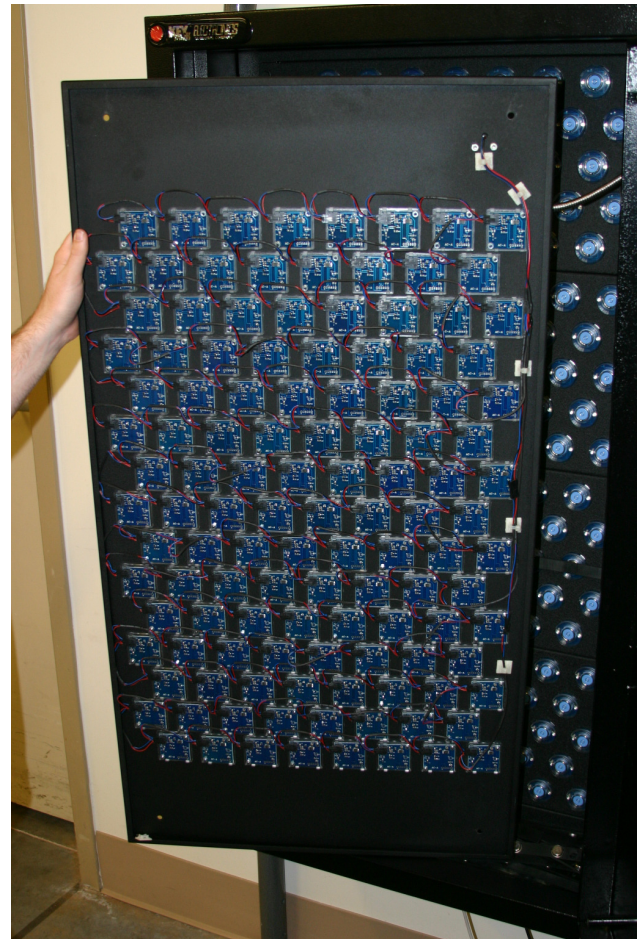

Fig. 33
2. gently swing the panel toward the cabinet interior and let it rest on the door frame. Keep the panel supported as long as it is in this position. (**Fig. 33**)